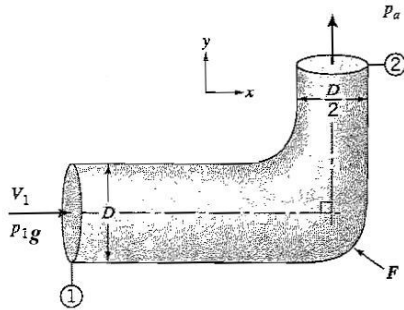

Figure P4.18
4.18 Consider the steady flow of air with no losses through the circular duct shown in Figure P4.18. The air has constant density ρ , and the duct exits to atmospheric pressure. Assume one-dimensional flow.